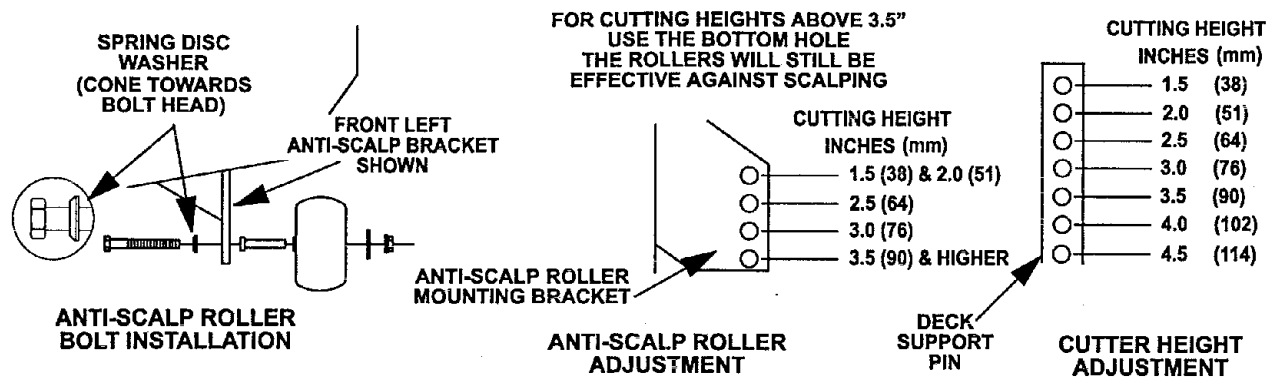

FIG 5
- b) Adjust anti-scalp rollers for Normal Operating Conditions. Place rollers in one of the positions shown in Fig 5. **For maximum deck flotation**, place rollers one hole position lower. Rollers should maintain 1/4 in. (6.4 mm) clearance to ground. **Do Not** adjust rollers to support the deck. Be sure roller bolts and nuts are installed with the spring disc washer between head of bolt and mounting bracket.
- c) When operating in extremely rough conditions it may be necessary to position the anti-scalp rollers one or two holes higher than described in "b" to prevent damage to the rollers and/or bolt failure (See Figure 5).